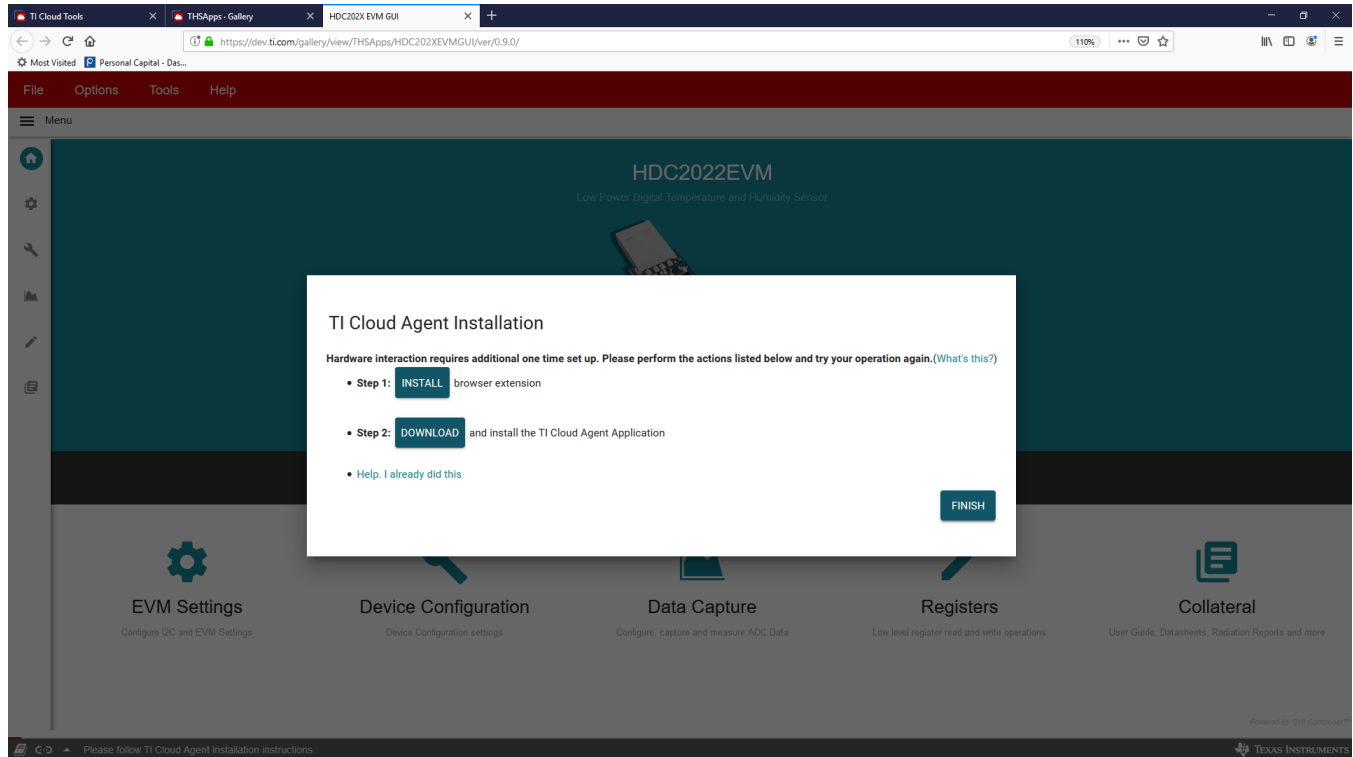

Figure 2. HDC2022EVM GUI on first startup
1. Click here in Safari, Firefox, or Chrome and select the HDC202xEVM GUI from the gallery to access the cloud-based GUI. The browser window should appear as in Figure 2. Follow the onscreen instruction to complete setup.